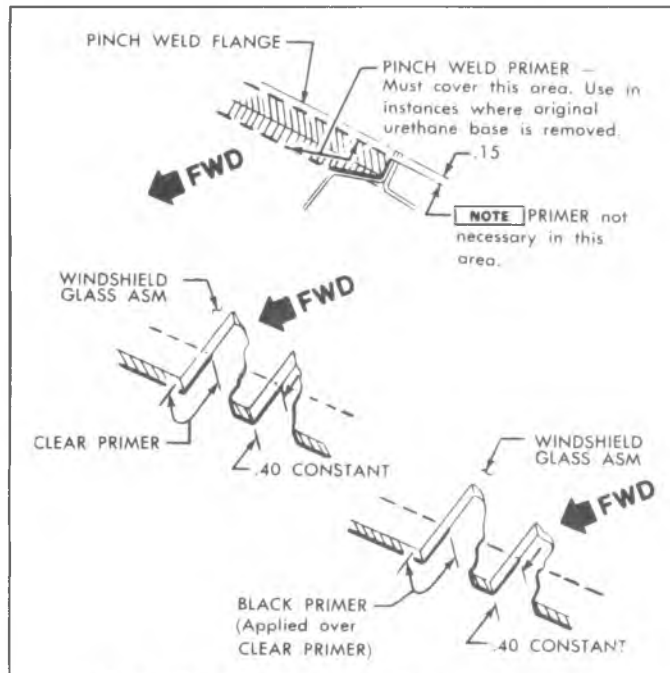

Fig. 2D-102 Windshield Installation Preparation
3. Apply clear glass primer, Essex SCD 435.18 or equivalent around the entire perimeter of glass edge. Refer to Fig. 2D-102.
adhesive kit 9631000 or Essex SCD 435.20 or equivalent around the entire perimeter of the glass edge. Allow to dry to touch (approximately 10 minutes). Refer to Fig. 2D-102.